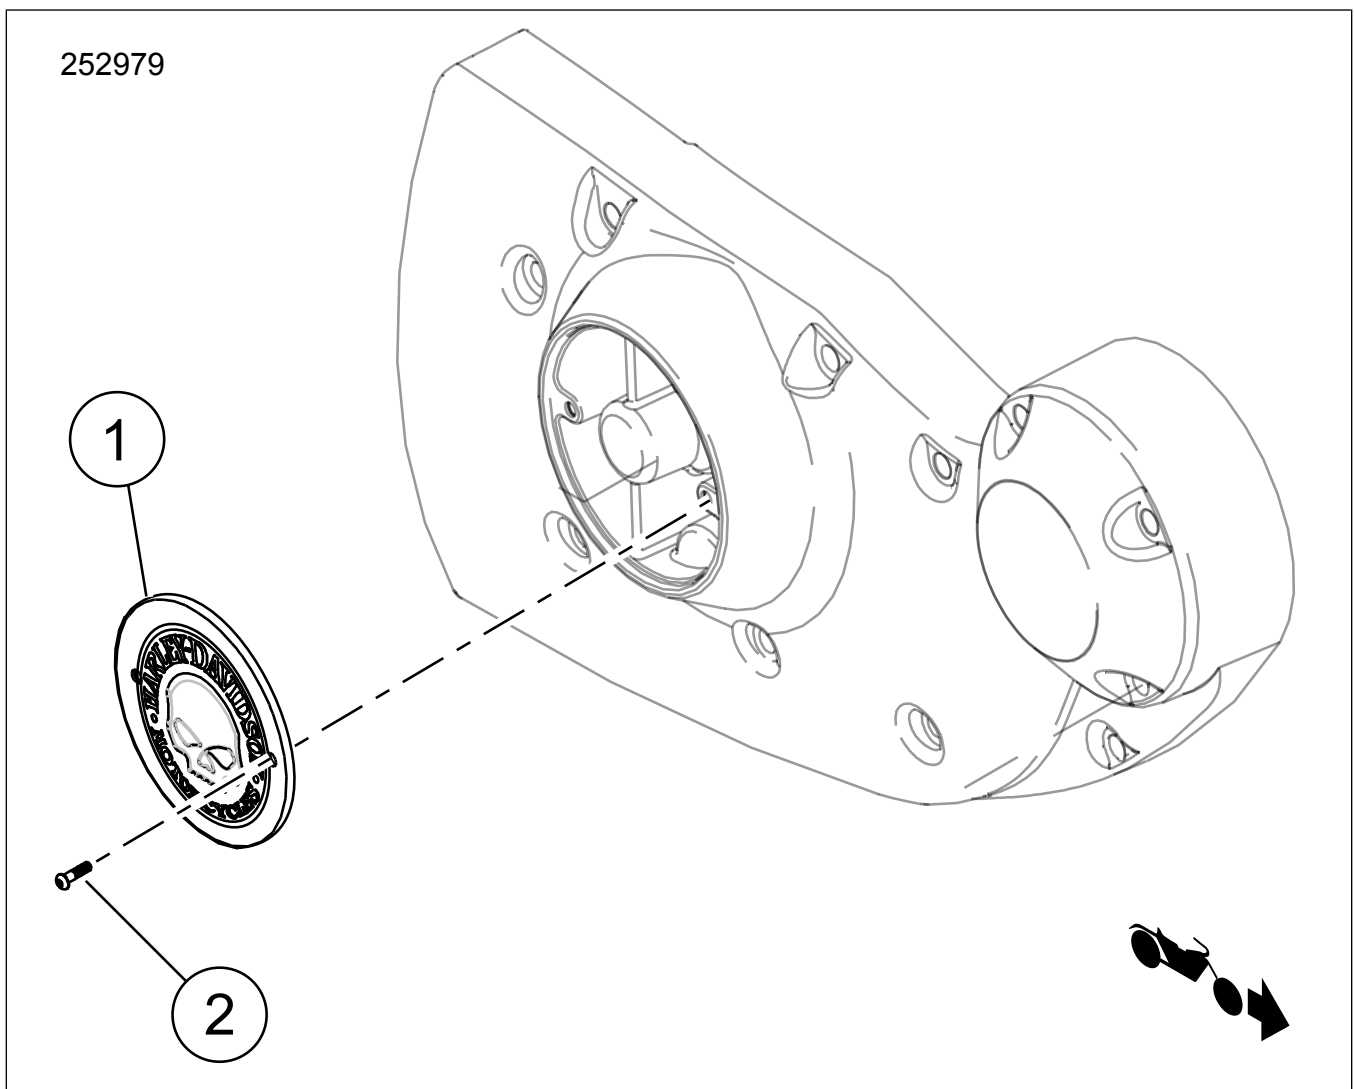

Figure 1. Kit Contents: Timer Cover Components
2. See Figure 1. Remove and discard the Original Equipment (OE) screws and timer cover.